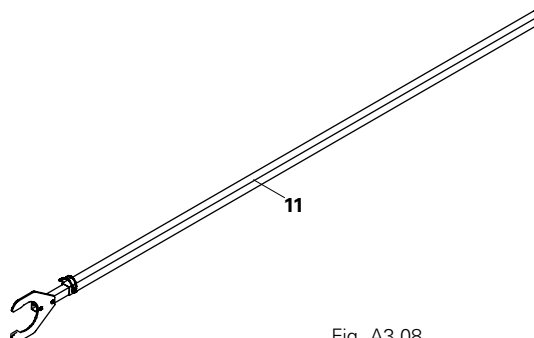

Fig. A3.08
The Shuttering Aid GFA (11) is used to assemble and disassemble the GRIDFLEX Elements. (Fig. A3.08)